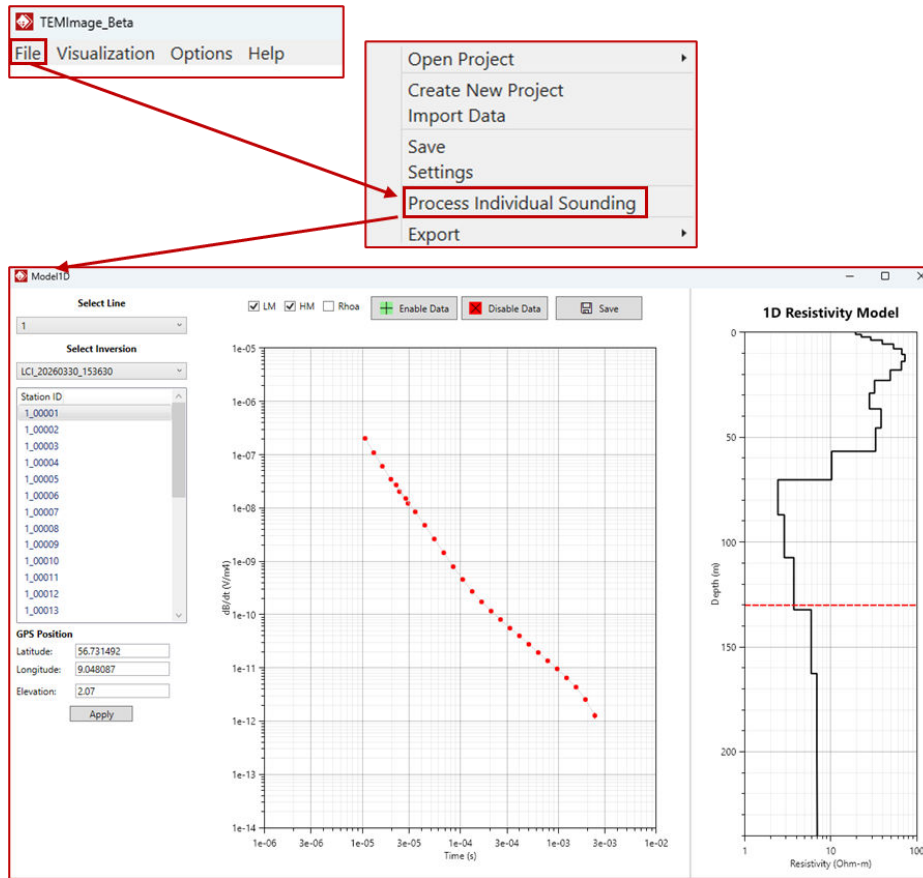

Figure 8: Processing individual soundings for sTEM data
- A new window will open displaying all individual soundings (and corresponding resistivity models, if inversion has already been performed) (Figure 8)